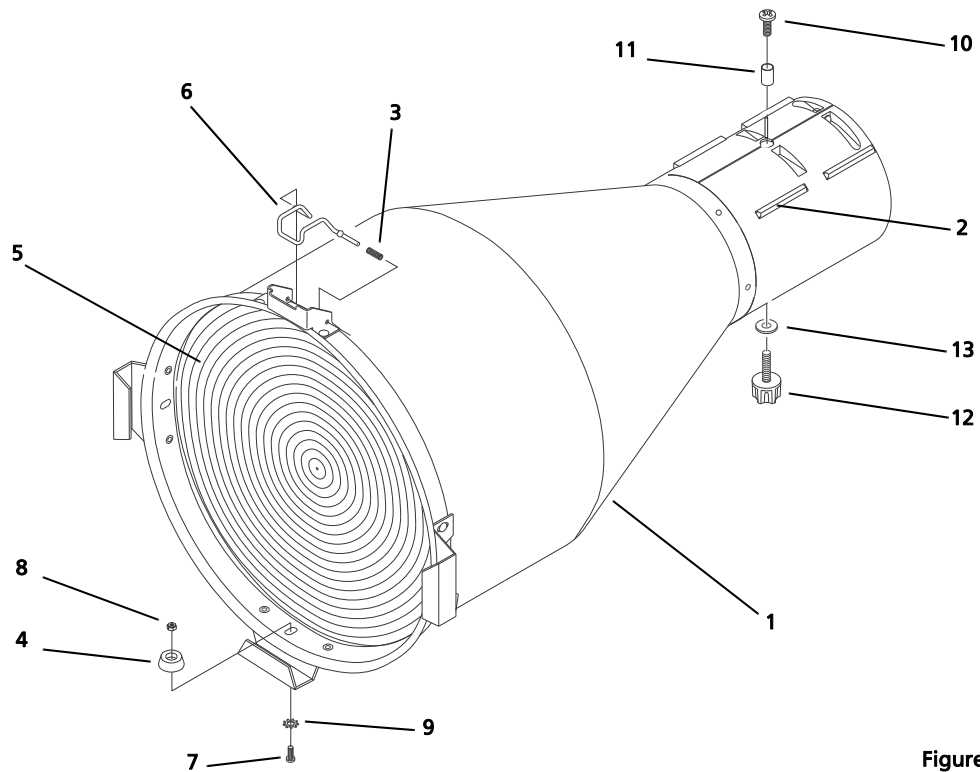
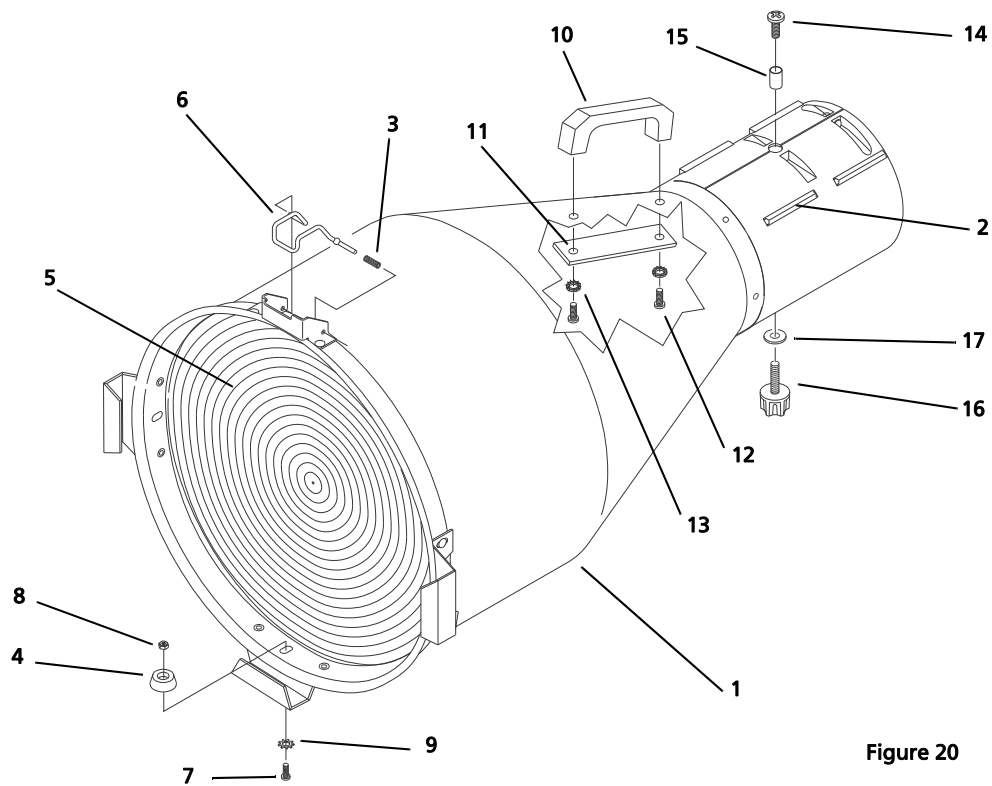

Figure 19
Figure 20
- 2: Install lens support pads (4) as required inside both lens tubes. Four pads are required per lens. Insert pads short-side down, as shown in Figure 19.
- 3: Install the 1/4-20 nut (12) in the left lens tube as shown.
- 1: Place the lens tube assembly (1) on your work surface. Align the assembly so that the color frame grooves are to your left.
- 2: If you are assembling a 5° tube, attach the handle (10) as shown in Figure 20, using the screws (12), washers (13), and backing plate (11).
- 3: Install the required lens as shown in Figure 19 or Figure 20 in the tube using required bumpers (4), screws (7), nuts (8), and washers (9). The side of the lens with the fresnel grooves should face the front of the tube. The smooth side should face the rear.